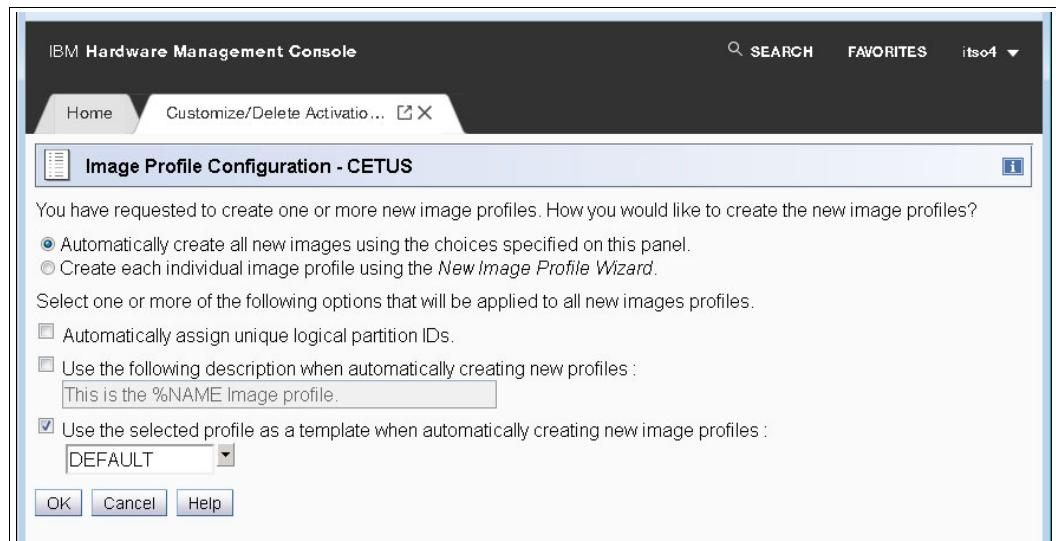

Figure 5-19 Image Profile automatic build options
11.In our example, we select **Automatically create all new images using the choices specified on this panel** and **Use the following description when automatically creating new profiles - DEFAULT**.Click OK (Figure 5-19).